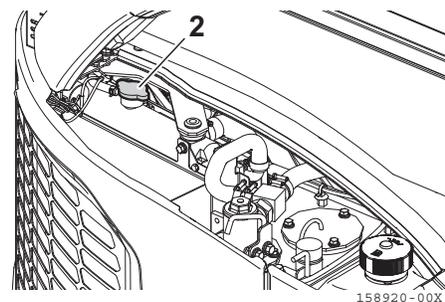

Fig. 8-60
5. Remove the storage space for tools. Then, open the front cover (right). Slowly turn the radiator cap (**Fig. 8-60, 2**) and remove the radiator cap.
10. To bleed the air from the cooling water system, allow the engine to run at low idle speed for 5 to 6 minutes and then at high speed without load for additional 5 to 6 minutes. [While the engine is running, keep the radiator cap (**Fig. 8-60, 2**) removed.]
11. Approximately 5 minutes after stopping the engine, pour the cooling water into the radiator through the water supply port up to almost the port opening, and securely tighten the radiator cap (**Fig. 8-60, 2**).